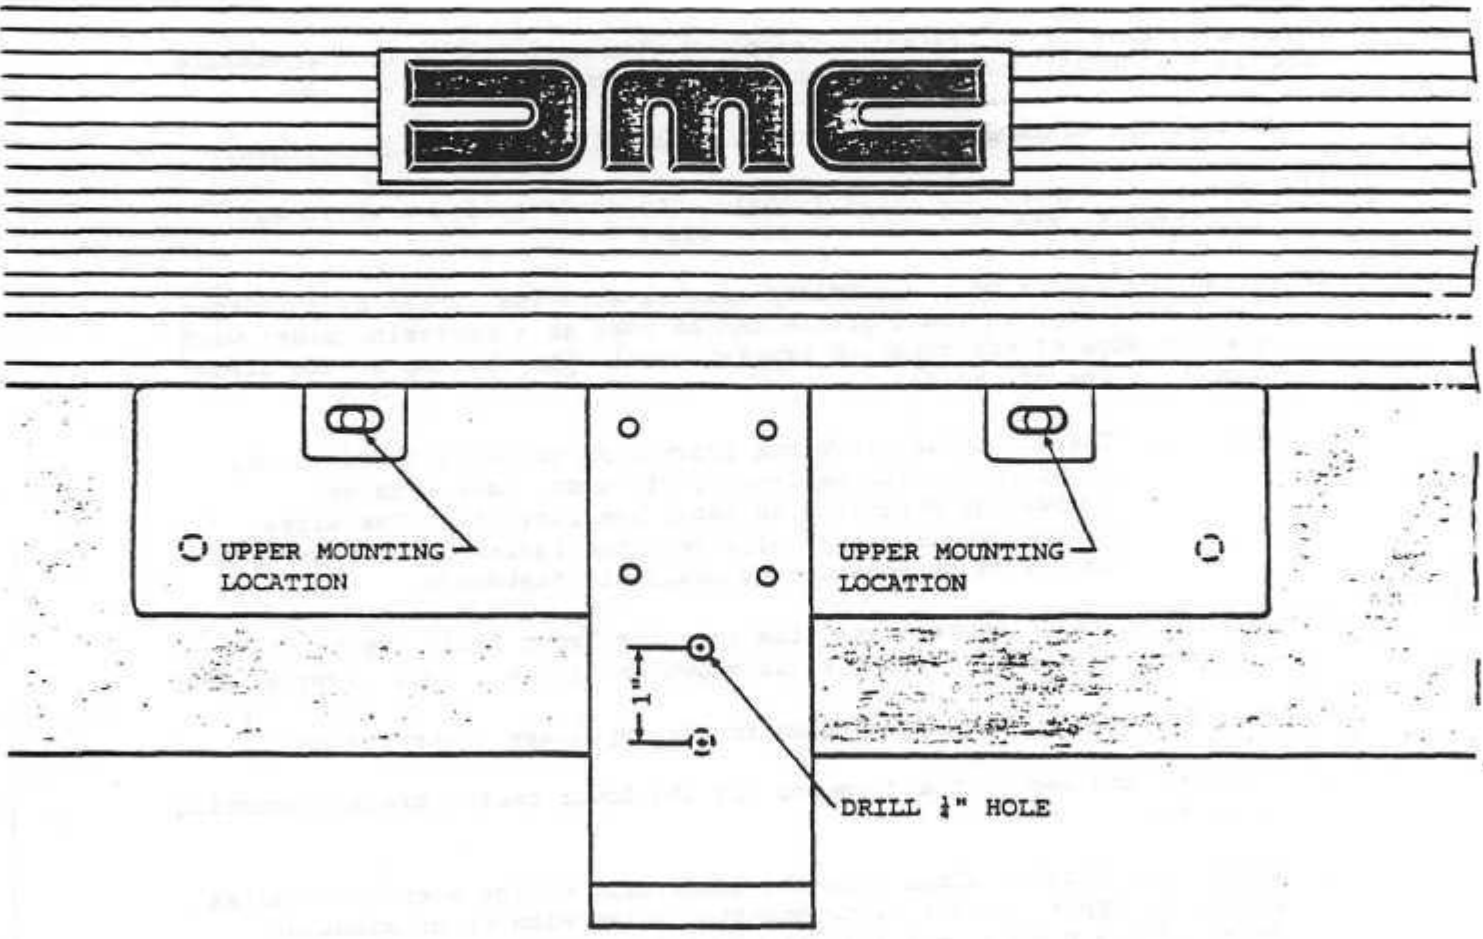

FIGURE 1
- A. Two (2) sections 44 inches long
- B. One (1) section 41½ inches long
- C. One (1) section 11½ inches long
4. With adhesive applied, position the molding sections over the folded outer edge of the stainless steel panel and over the outer lip of the cover's plastic inner panel as indicated below in Figure 1.
In order to properly insert the door key into the door lock's key slot, the slide plate, covering the key slot, must first be pushed aside with the key. This is best done by placing the tip of the key at an angle into the "crescent-shaped" recess, sliding the cover plate aside with the tip of the key and then inserting the key (Figure 1).
- 1) Working on bench, drill "one 1/2" hole into the supplied bracket as indicated in figure 1. (see reverse side)
3. Drill 3 holes of appropriate size into the front fascia (using the supplied bracket as a templet) as shown in figure 1. (see reverse side)